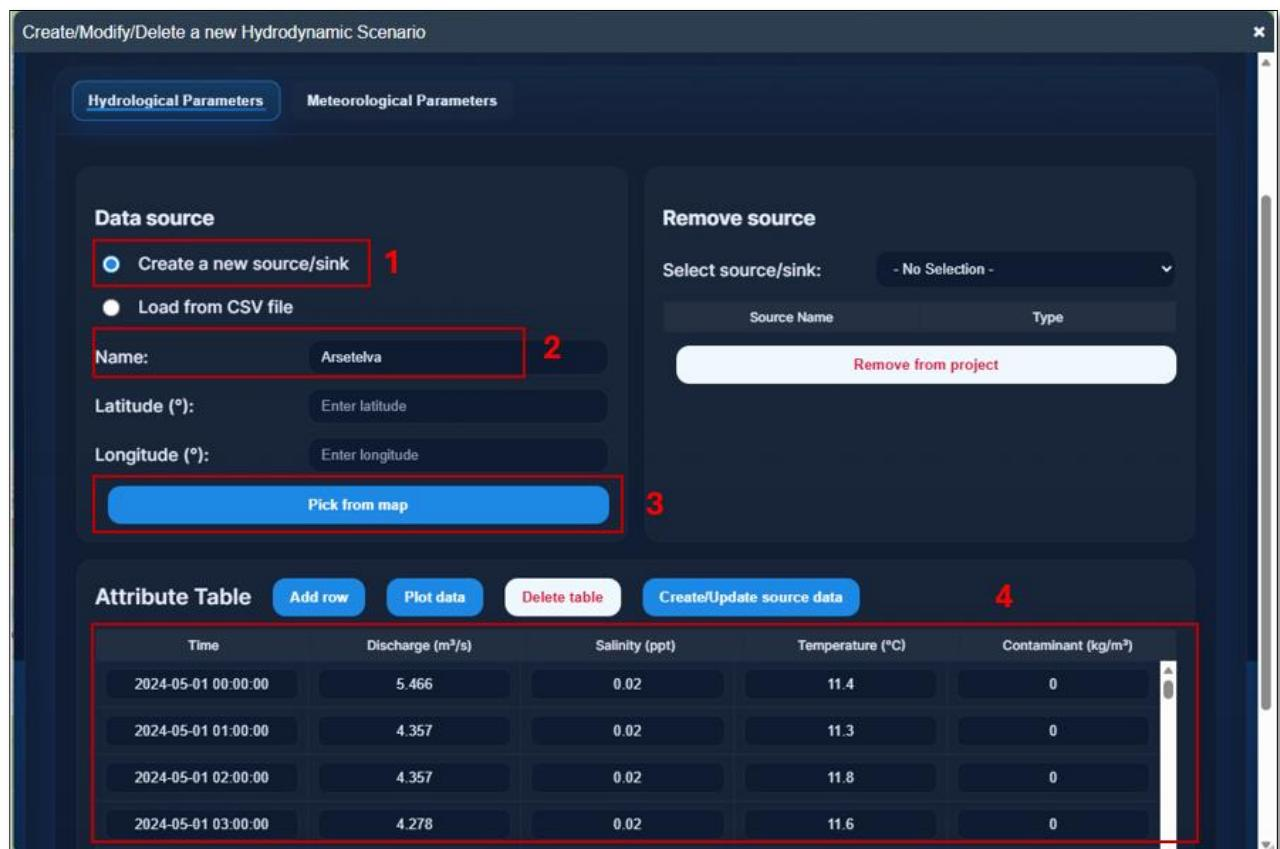

Figure 2.22. Set up the hydrological parameters from the map
- *Create a data source from the map:* The user can follow the steps below to add a new data source (**Figure 2.22**):